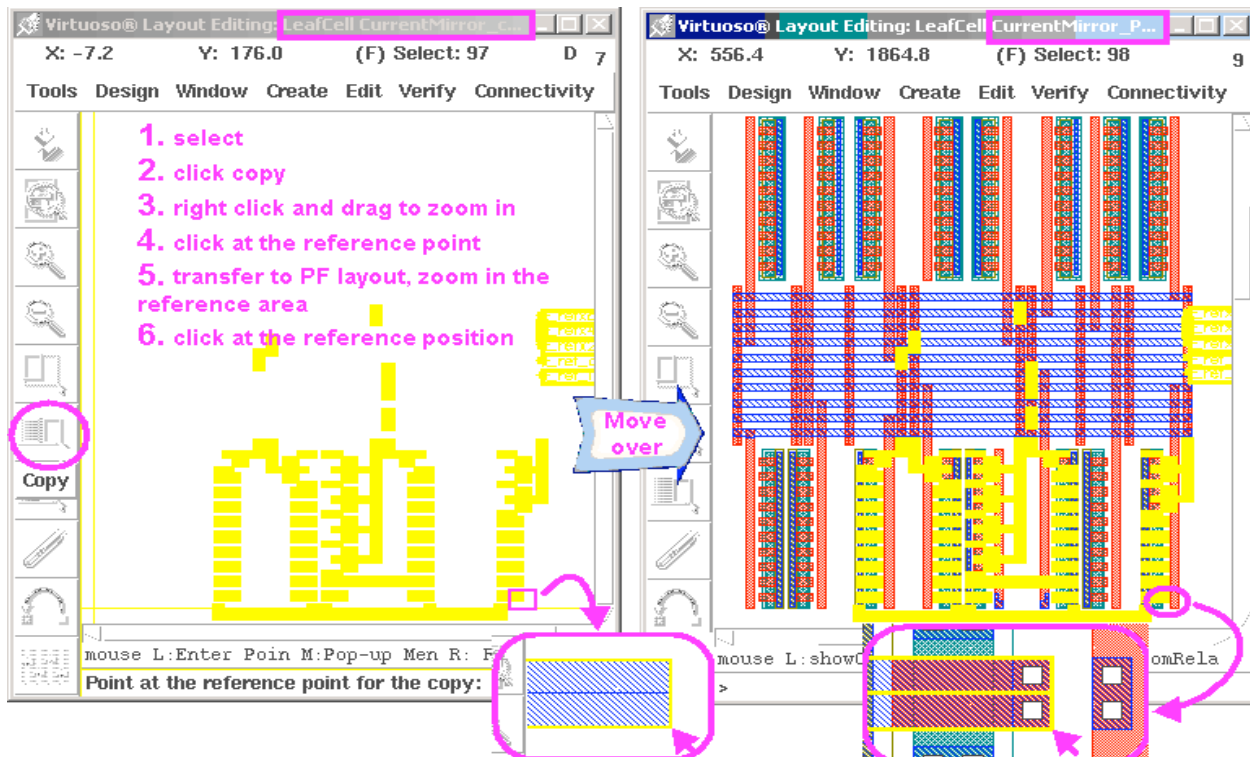

Figure 111: Steps for copying the metals from CurrentMirror_copy to CurrentMirror_PF.
7. Select all the leftovers. While they are all highlighted, click the copy button. It will ask you to select a reference point (Figure 111).
Decide your reference, click at your reference point. Move your mouse to the CurrentMirror_PF Layout window, and then point your mouse and click at the same position as your chosen reference (Figure 111).